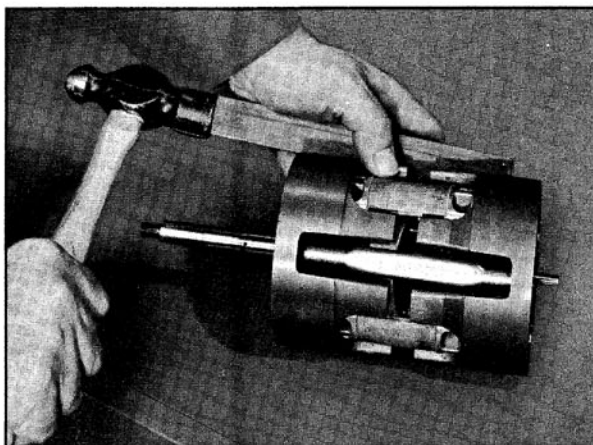

Fig. 14-113 Separating Cylinder Halves
2. Drive the cylinder halves apart using a wood block and hammer. (Fig. 14-113)